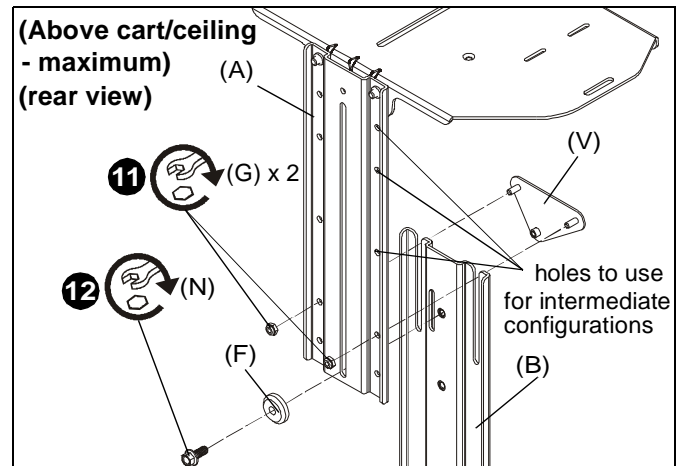

Figure 24
11. (For **maximum/intermediate extension**) Use two #10-24 lock nuts (G) to secure upright bracket (A) to main bracket (B) and adapter plate (V). (See Figure 24)
12. (For **maximum/intermediate extension**) Use 1/4-20 x 5/8" hex head flange bolt (N) and center washer (F) to secure upright bracket (A) to main bracket (B). (See Figure 24)